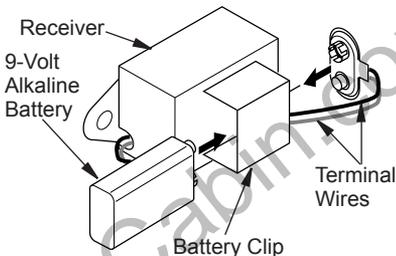

Figure 45 - Attaching Alkaline Battery to Receiver
3. Attach terminal wires to battery. (see Figure 45).